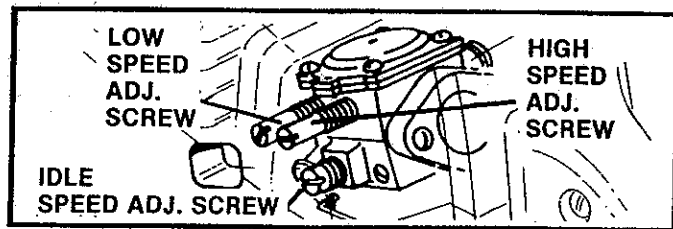

Figure 51
- d. Locate the three (3) carburetor adjusting screws located on the fan housing side of the saw. Figure 51.